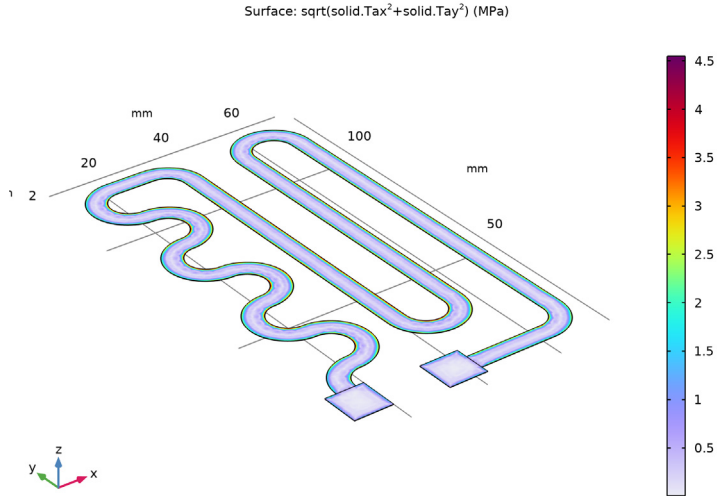

Figure 6: The effective forces at the interface between the resistive layer and the glass plate.
**Figure 6** displays the effective forces acting on the adhesive layer during heater operation. As the figure shows, the device experiences a maximum interfacial stress that is an order of magnitude smaller than the yield stress. This means that the device is well designed in terms of adhesive stress.